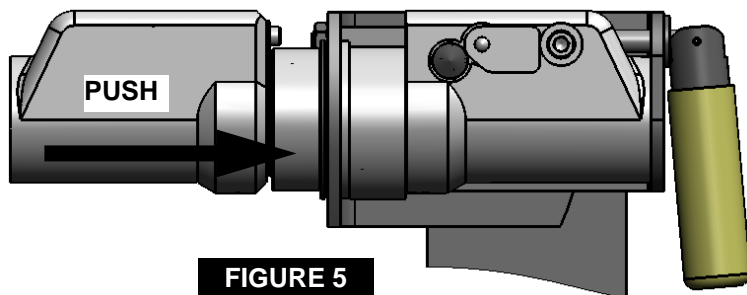

FIGURE 5
3. Actuate cam action by pivoting the bracket handle 80-90 degrees as shown in figure 5. Hold in this position and push the Male half of the Coupler in place, which will allow the Male half to move to its operating position.